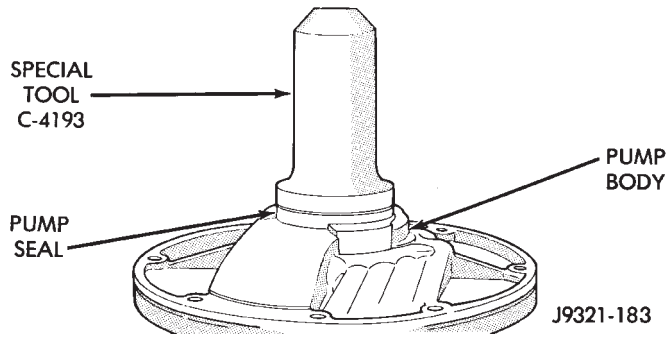

Fig. 158 Pump Oil Seal Installation
(12) Install new oil seal in pump with Special Tool C-4193 and Tool Handle C-4171 (Fig. 158). Be sure seal lip faces inward.
(13) Install new seal ring around pump housing. Be sure seal is properly seated in groove.
(14) Lubricate lip of pump oil seal and O-ring seal with transmission fluid.